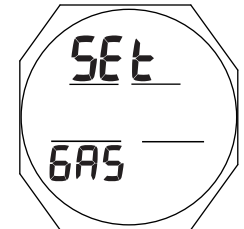

Fig. 36 - SET G LEAD-IN
**Set Gas Lead-in**, information includes (Fig. 36):